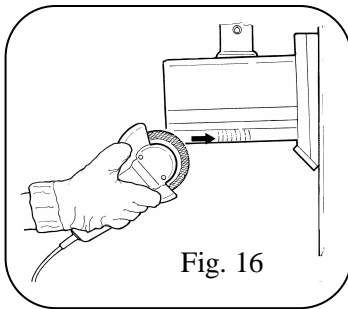

Fig. 16
- Sharpen the cutting blade periodically with a portable grinding stone. (Fig. 16)